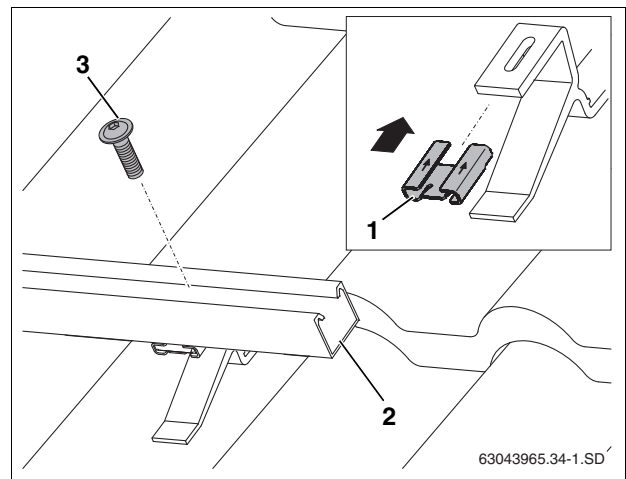

Fig. 29 Fastening profile rails to the roof hook
- Push threaded clip (Fig. 29, [1]) onto the roof hook in the direction of the arrow.
- Place the lower horizontal rails (Fig. 29, [2]) onto the roof hooks and loosely fasten M8 bolt (Fig. 29, [3]) so that the rails can still be aligned.